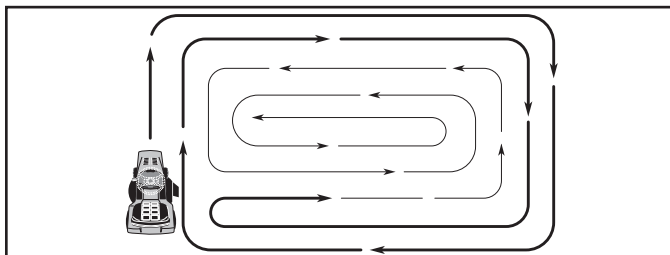

Fig. 9
- When mowing large areas, start by turning to the right so that clippings will discharge away from shrubs, fences, driveways, etc. After one or two rounds, mow in the opposite direction making left hand turns until finished (See Fig. 9).